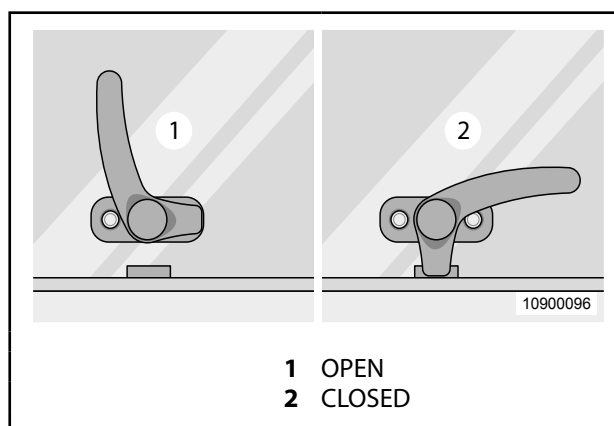

Fig. 36 Window locking mechanism
1. Turn the window locking lever to position » OPEN « (Fig. 36, item 1).